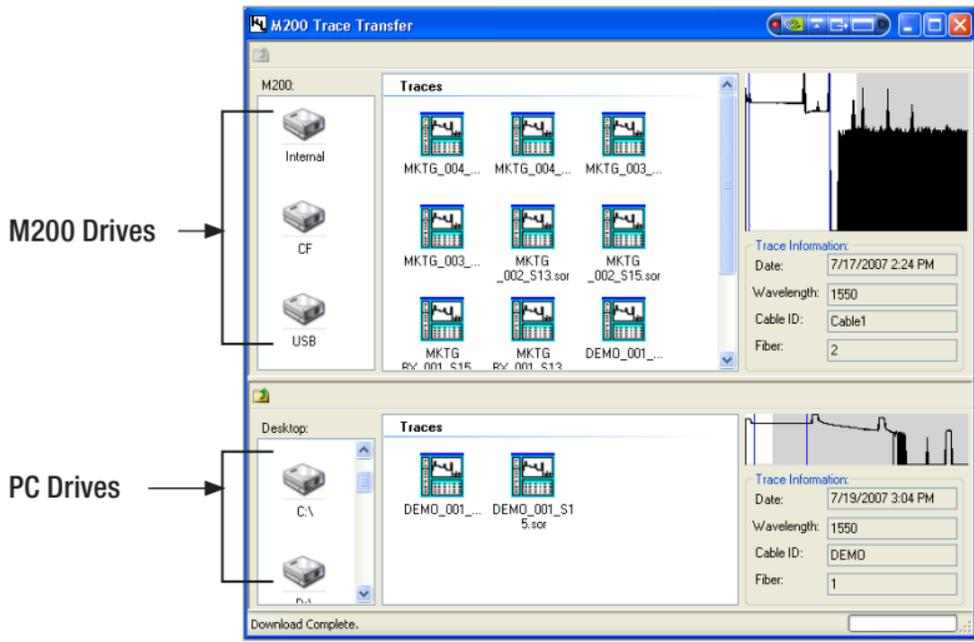

Figure 3-1: M200 Trace File Transfer
3. From the Trace.net File menu, select [M200 Trace File Transfer...] to open the [M200 Trace Transfer] menu (see Figure 3-1).
5. From the Trace.Net [File] menu, select the [OFL 200 Trace File Transfer] command to display the [Transfer Files From OFL 200] dialog box (see Figure 3-1).